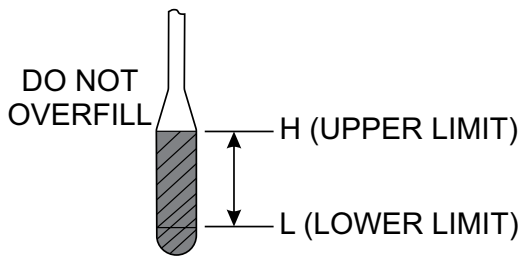

Figure 53. Dipstick Engine Oil Level
3. Determine if engine oil is low. Oil level should be between the upper and lower limit (Figure 53) on the dipstick.